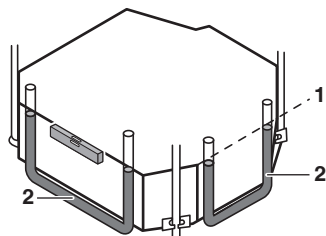

Fig. 9
- (3) Adjust the unit to the right position for installation. (See "4. PREPARATIONS BEFORE INSTALLATION" on page 7.)
- (4) Check if the unit is horizontally levelled.
- Check if the unit is levelled at all four corners with a water level or a water-filled vinyl tube as shown in **Fig. 9**.